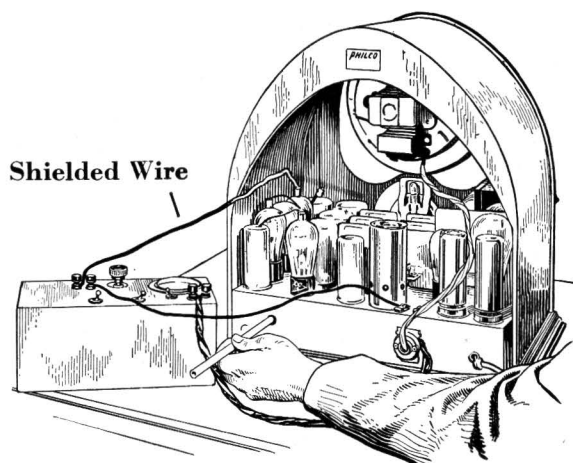

Fig. 1
1. Make the necessary connections between the oscillator and the receiver as shown in the illustration, Fig. 1. The connections consist of (a) the ground wire to the GND. terminal of the radio set and to the G terminal of the oscillator; (b) the A terminal of the oscillator through the necessary length of shielded lead, (shielding grounded) to the grid of the first detector tube (tube shield in place and first detector grid clip removed), (c) output meter terminals to the primary of the output transformer (this connection is obtained at the speaker plug and socket through the Philco plug-in adapter, part 6095); in the Philco models without a speaker plug, this connection is made to the primary of the output transformer, (d) power cord of receiver to the electric power outlet after all other connections have been completed.